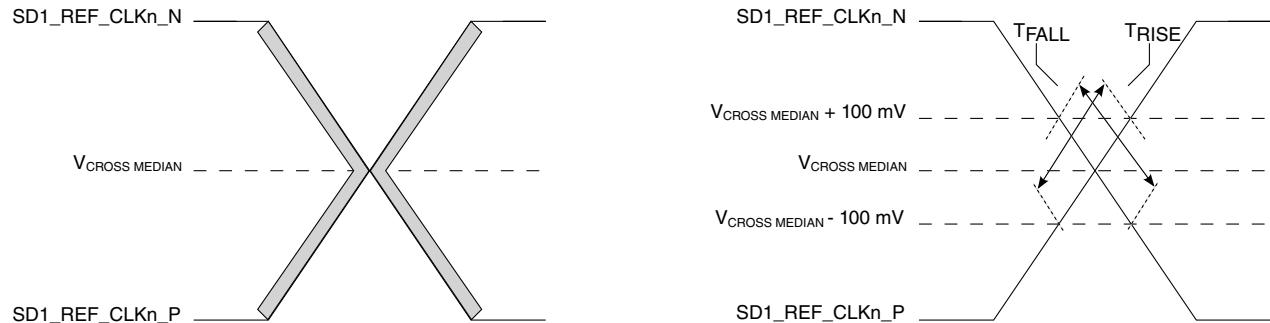

Figure 78. Single-ended measurement points for rise and fall time matching
11. Matching applies to rising edge for SD1_REF_CLKn_P and falling edge rate for SD1_REF_CLKn_N. It is measured using a 200 mV window centered on the median cross point where SD1_REF_CLKn_P rising meets SD1_REF_CLKn_N falling. The median cross point is used to calculate the voltage thresholds that the oscilloscope uses for the edge rate calculations. The rise edge rate of SD1_REF_CLKn_P must be compared to the fall edge rate of SD1_REF_CLKn_N, the maximum allowed difference should not exceed 20% of the slowest edge rate. See Figure 78.